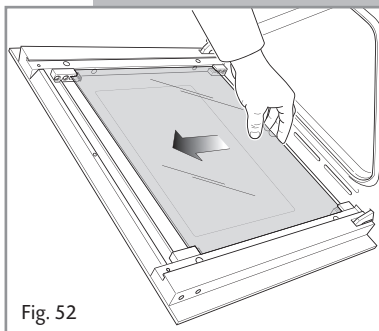

Fig. 52
- Gently unlock the middle pane of glass from the bottom clamps by moving it as in fig. 52.